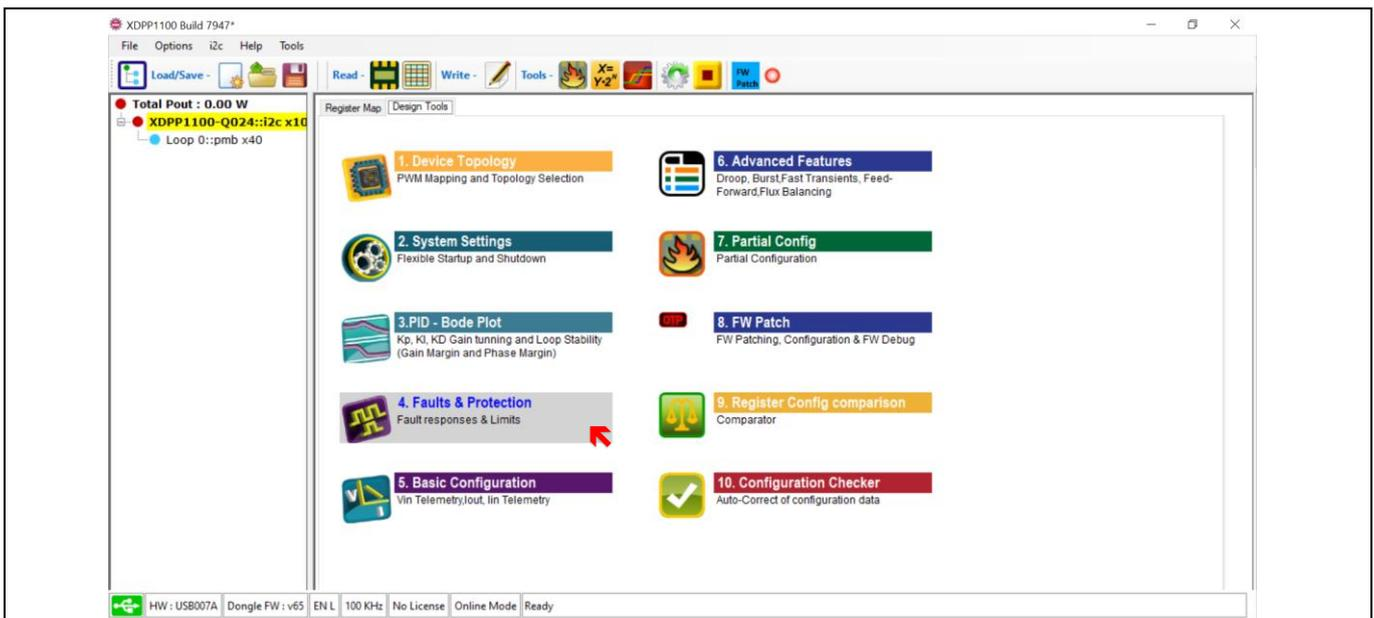

Figure 31 Faults and protection (fault responses and limits)
- Click on **XDPP1100-Q024::i2c x10** (highlighted in yellow in Figure 31).